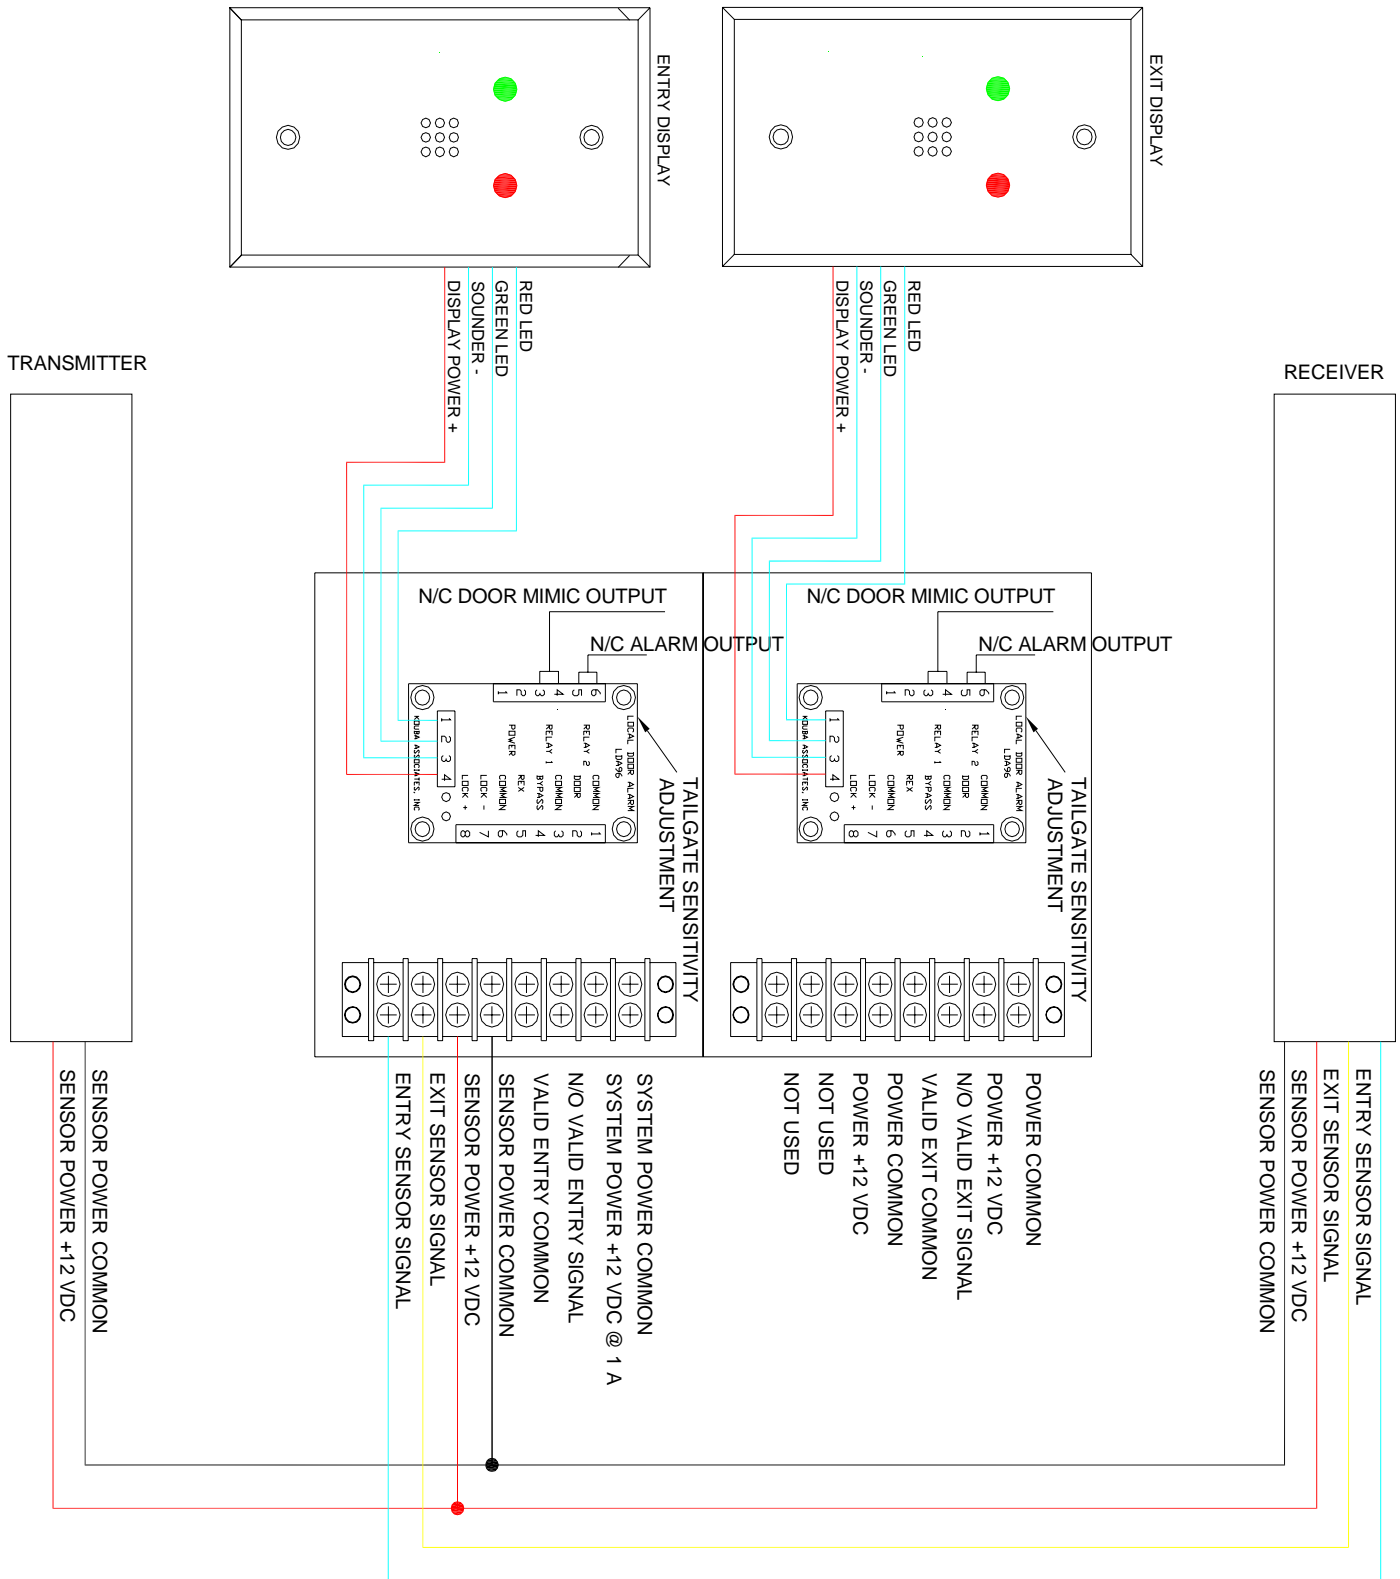

Figure 4 (Card In / Card Out Sensor and Display Terminations)
25. **THIRD WALK THROUGH TEST:** Present a valid card to the entry reader, and have two people walk through the sensing area close together. An alarm should be generated. Repeat this several times varying the distance between the two people. At some point of closeness, an alarm will not be generated. The tailgate sensitivity adjustment is provided to set the alarm distance between people (refer to Figure 4 for the tailgate sensitivity adjustments). The other potentiometers on the control board are not used. Repeat this procedure in the exit direction, the tailgate sensitivity is separate between entry and exit.